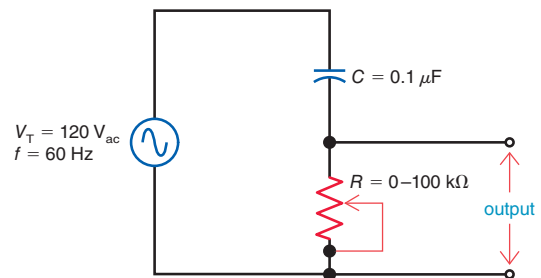

Figure 17-15
- 17.11 With R set to $50\text{ k}\Omega$ in Fig. 17-15, solve for X_C , Z_T , I , V_R , V_C , and θ_Z .
- 17.12 With R set to $50\text{ k}\Omega$ in Fig. 17-15, what is the phase relationship between
- 17.13 Draw the phasors for V_R , V_C , and V_T in Fig. 17-15 with R set at $50\text{ k}\Omega$. Use V_T as the reference phasor.